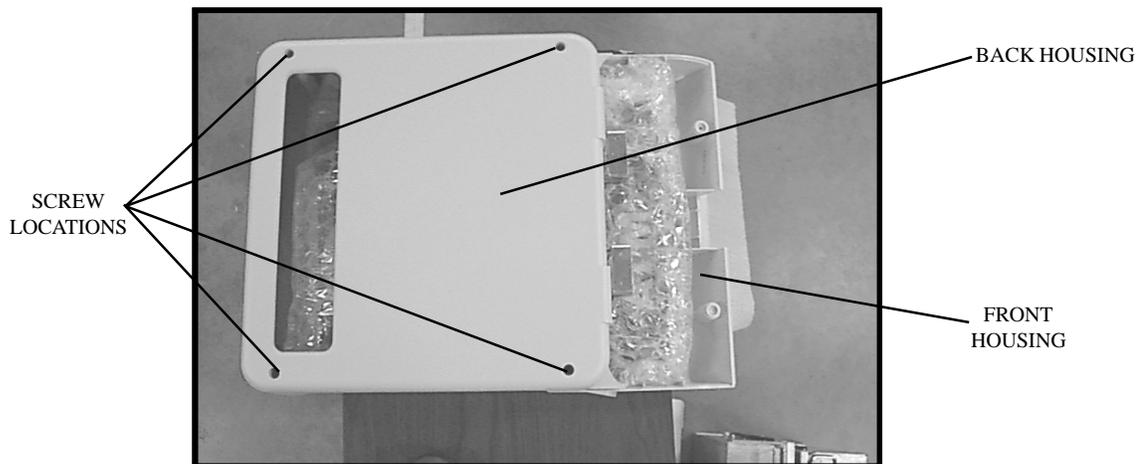
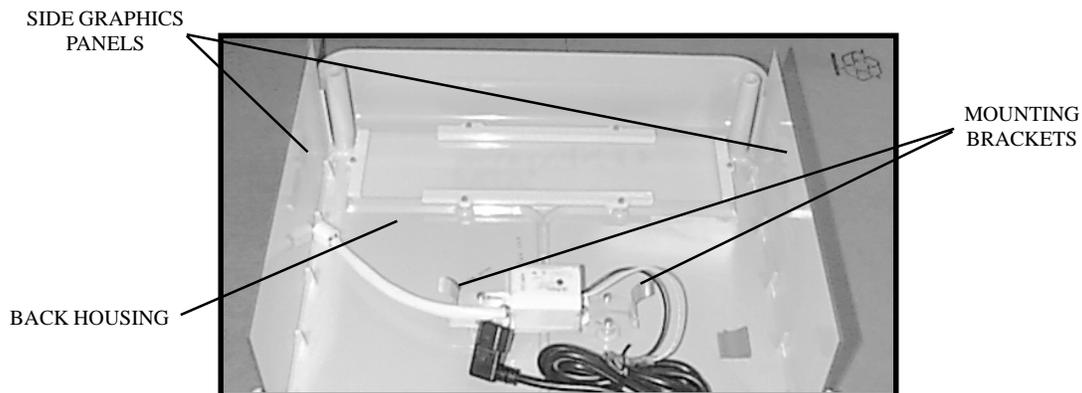

FIGURE 4-2
FIGURE 4-3
4. Remove the LED Hightopper Sign kit from the shipping box. Remove the foam cradles from the edges of the Hightopper sign. Set the Hightopper sign face down. Remove the four screws that attach the Back Sign Housing Assembly to the Front Sign Housing Assembly and set them aside. (See Figure 4-2.) Lift off the Back Sign Housing Assembly, flip it over and set it aside. (See Figure 4-3.)